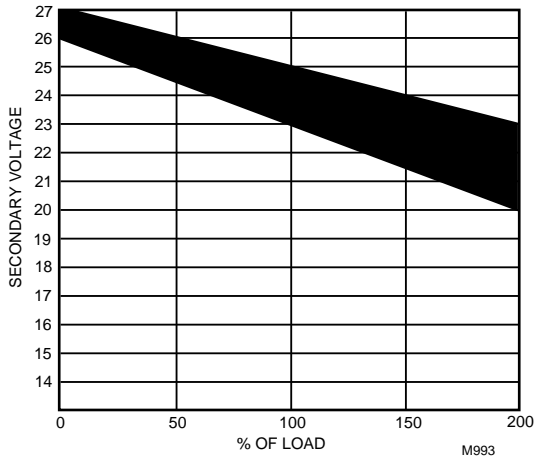

Fig. 21. NEMA class 2 transformer voltage output limits.
This means that four volts are going to be lost between the transformer and the controller; therefore, to assure the controller receives at least 20 volts, the transformer must output more than 24 volts. Because all transformer output voltage levels depend on the size of the connected load, a larger transformer outputs a higher voltage than a smaller one for a given load. Fig. 21 shows this voltage load dependence.
In the preceding I x R loss example, even though the controller load is only 37 VA, a standard 40 VA transformer is not sufficient due to the line loss. From Fig. 21, a 40 VA transformer is just under 100 percent loaded (for the 37 VA
controller) and, therefore, has a secondary voltage of 22.9 volts. (Use the lower edge of the shaded zone in Fig. 21 that represents the worst case conditions.) When the I x R loss of four volts is subtracted, only 18.9 volts reaches the controller, which is not enough voltage for proper operation.
1. Use a larger transformer; for example, if an 80 VA model is used, see Fig. 21, an output of 24.4 volts minus the four volt line loss supplies 20.4V to the controller. Although acceptable, the four-volt line-loss in this example is higher than recommended. See the following **IMPORTANT**.
To meet the National Electrical Manufacturers Association (NEMA) standards, a transformer must stay within the NEMA limits. The chart in Fig. 21 shows the required limits at various loads.